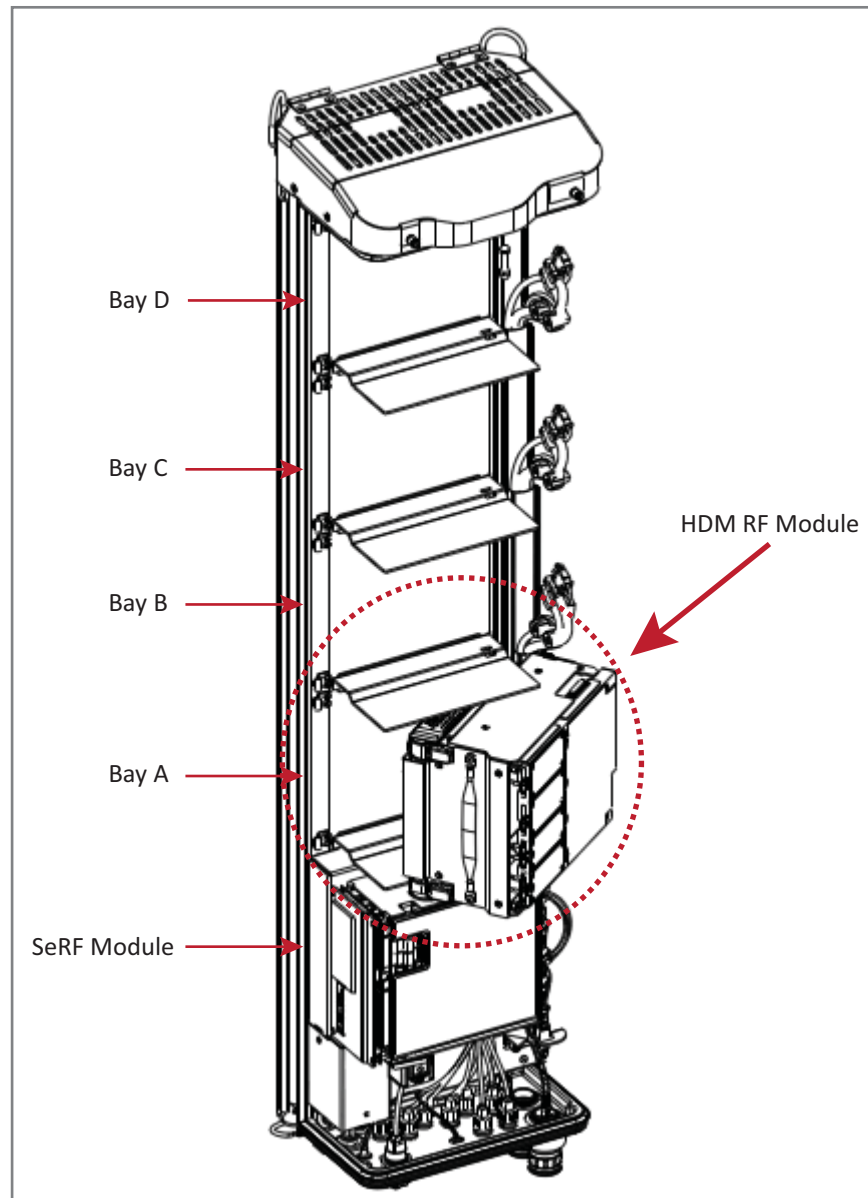

Figure 22. Installing an HDM RF Module
- HDM RF Module: Figure 22 on page 87